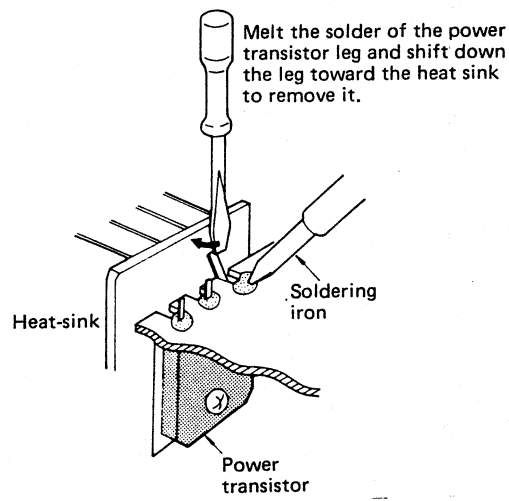

Fig. 3
1. Unsolder the power transistor as shown in Fig. 3.